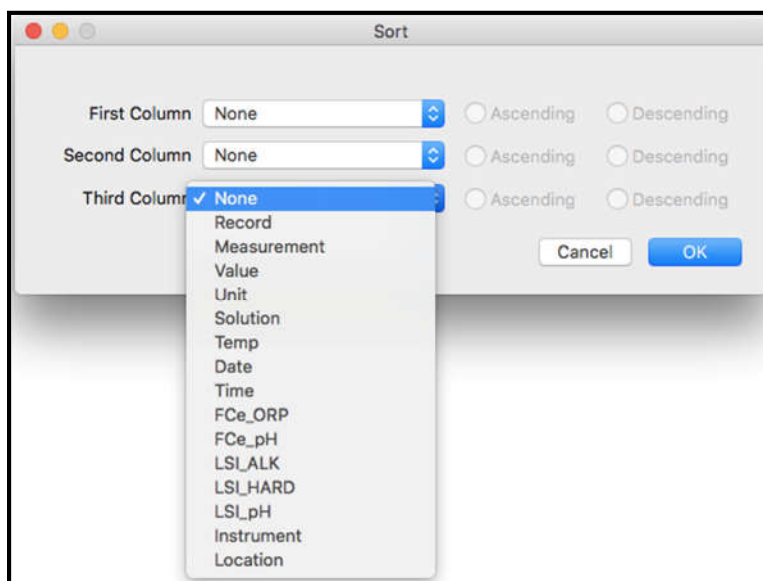

Figure 44
- Use the drop down menus from this window to select a data column for each of the desired sort keys. (Figure 44).